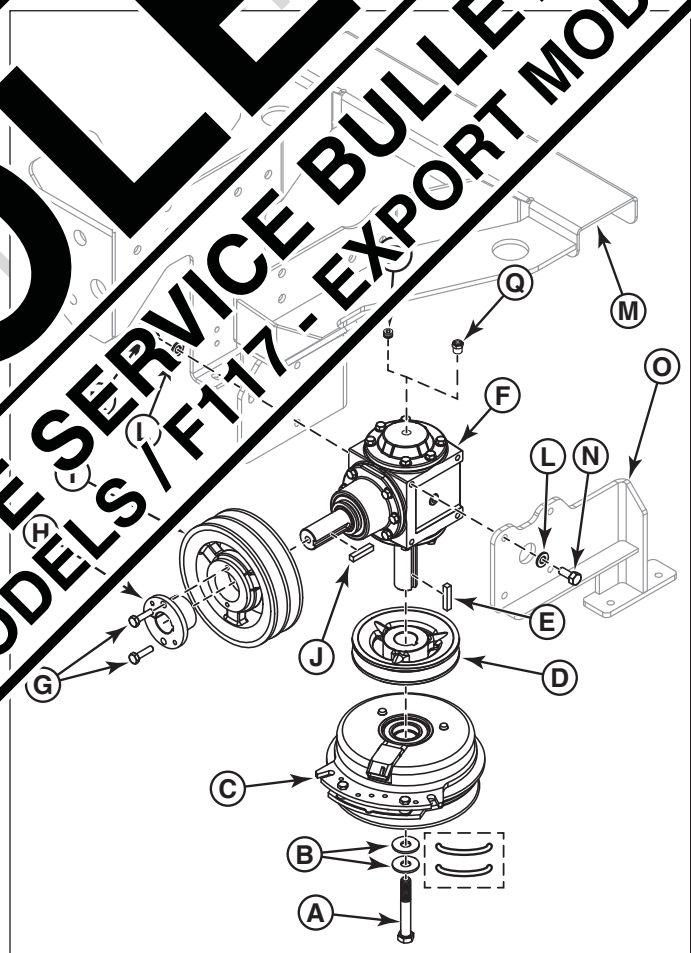

Figure 8. Removing the Gearbox
20. Remove the crankshaft bolt (A, **Figure 8**), two (2) Belleville washers (B), the PTO clutch (C), single groove pulley (D), and 1/4" SQ X 1-1/4" key (E), from the bottom shaft of the gearbox (F).
21. Remove the two (2) 1/4-20 X 1" bolts (G) from the tapered hub (H).
22. Use the two (2) 1/4-20 X 1" bolts to remove the tapered hub from the center of the tapered double pulley (I). Remove the tapered double pulley and 1/4" SQ X 1-1/4" key (J) from the bottom shaft of the gearbox.
23. Remove the four (4) 5/16-18 X 3/4" bolts (L) and 16 washers (L) that secure the carburetor to the engine mount (M).
24. Remove the four (4) 5/16-18 X 3/4" bolts (N) and 16 washers (L) that secure the gearbox to the engine mount (M).
25. Remove the four (4) 5/16-18 X 3/4" bolts (O) and 16 washers (L) that secure the gearbox to the engine mount (M).